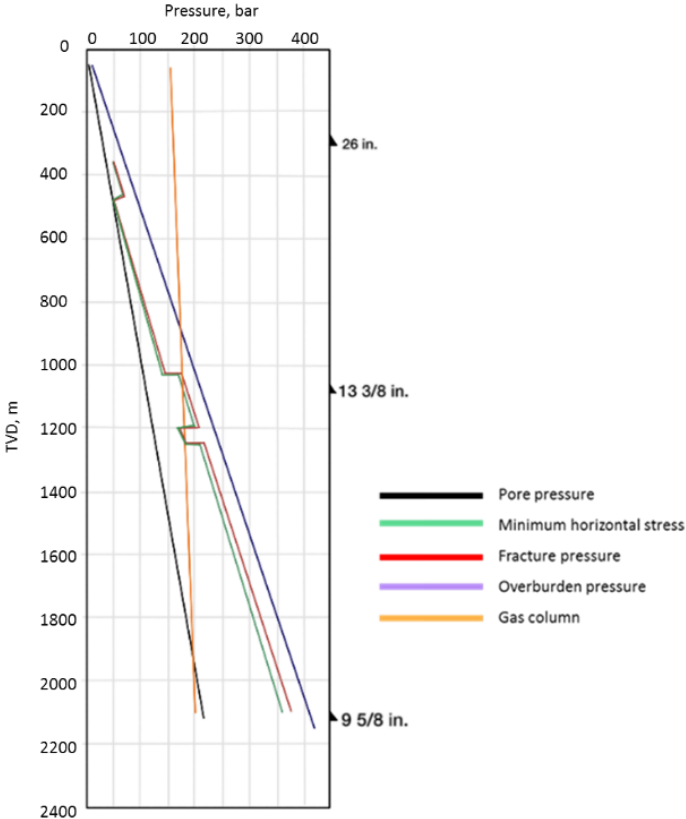

Figure 1 – Pore pressure – Fracture pressure gradient curves.
7. The following gradient curves, Figure 1, have been reported for a well. Based on the given information estimate the minimum setting depth for the plug and propose an interval for the plug placement. Explain the procedure briefly. (5p)